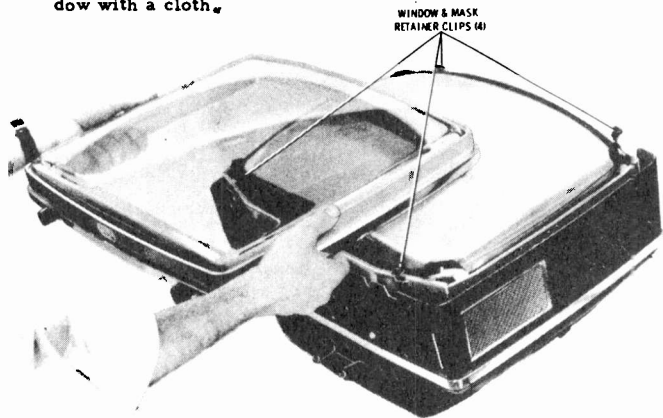

FIGURE 8. REMOVING BEZEL
Remove four (4) bezel mounting screws; two (2) on top and two (2) on bottom of receiver. The picture tube mask and window are not secured to the bezel. Place receiver on its back and slide fingers under edges of bezel when removing (see Figure 8).